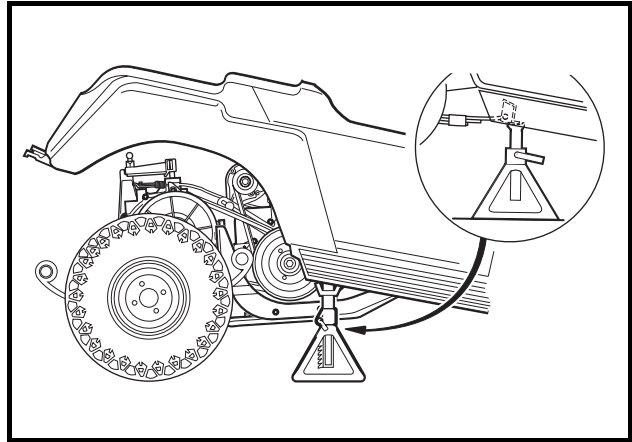

Figure 19-25 Position Jack Stands On Both Sides of Frame
11. Position jack stands, adjusted to support the vehicle at this height, under the frame crossmember between the leaf spring mounts and side stringers, just forward of each rear wheel. Lower the floor jack to allow the jack stands to support the vehicle (**Figure 19-25, Page 19-11**).